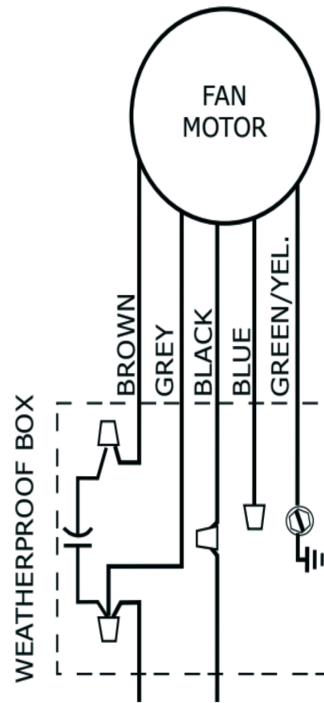

Fig. 2
**2** Note the location of the wires. Disconnect and remove the wires from the junction box. Refer to Fig. 2 for junction box wiring diagram.
Refer to figure 2 for junction box wiring.